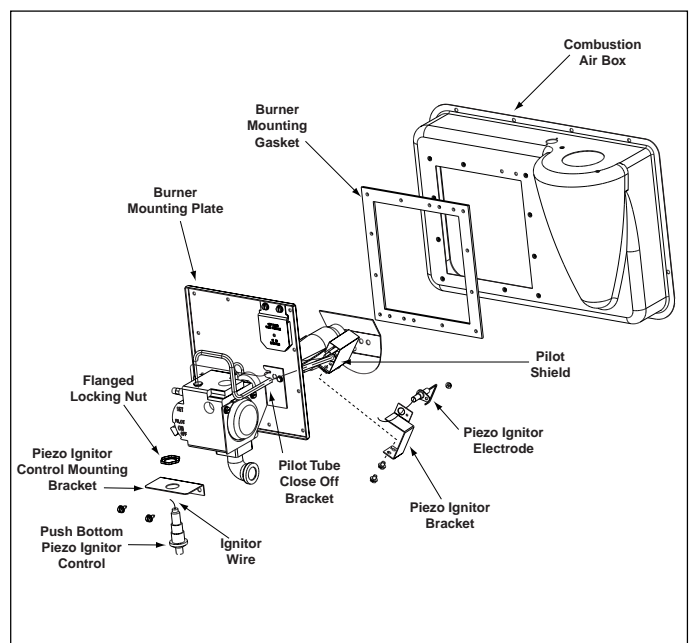

Figure 2a. Installation For Model Series MG Furnaces
3. Mount the piezo ignitor bracket to the underneath the pilot shield using the two fasteners, as shown in Figures 2a and 2b. Ensure that both the pilot shield and the ignitor are secured when re-installing the fasteners.
10. Attach the push button piezo ignitor control to the piezo ignitor control mounting bracket as shown in Figures 2a and 2b. Be sure that the flanged locking nut is securely fastened for proper grounding.
3. Secure the burner plate with the fasteners that were removed earlier. Mount the piezo ignitor control to the burner plate as shown in Figures 2a and 2b.